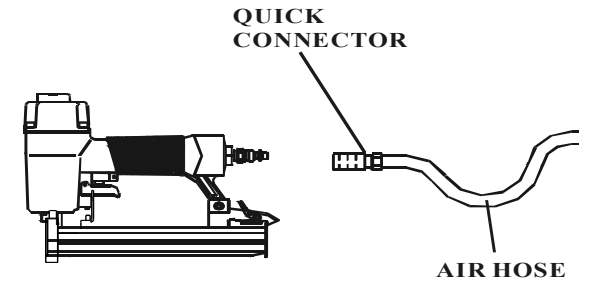

Figure 1
4. Connect the tool to the air supply (Figure 1).